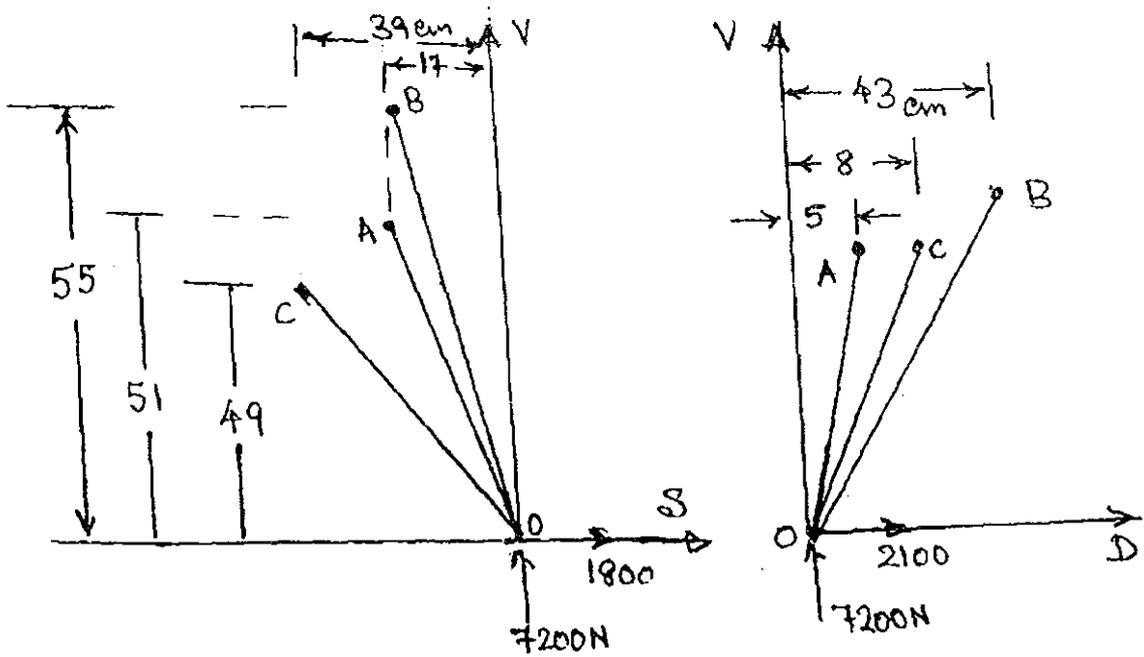

Fig. 2
- (b) Find the forces in the members of the landing gear tripod shown in the Fig. 2.